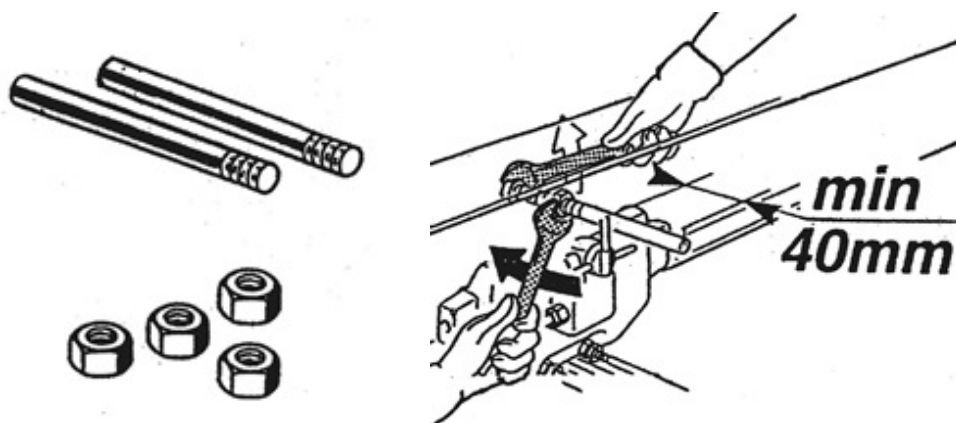

fig.31
2. Prepare two actuators of suitable length made from $\varnothing 10$ mm rod with one threaded end fitted with a nut. (fig.31)
3. Assemble the actuators on the beam and, after ensuring the minimum distance of 40 mm, fully tighten the locking nuts. (fig.31)